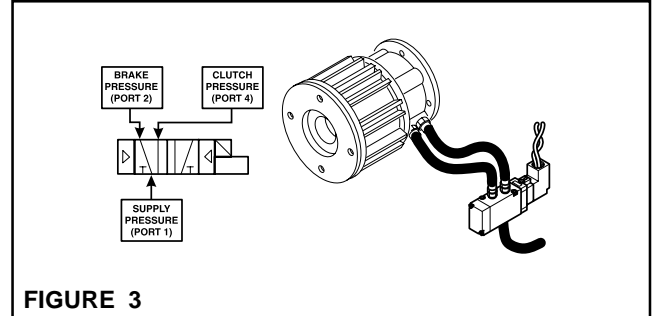

FIGURE 3
1. If the brake is to be set when the solenoid is de-energized, connect the port marked **2** to the brake and the port marked **4** to the clutch (See Figure 3).
2. Connect the air supply line to the inlet port (marked **1**) (See Figure 3).